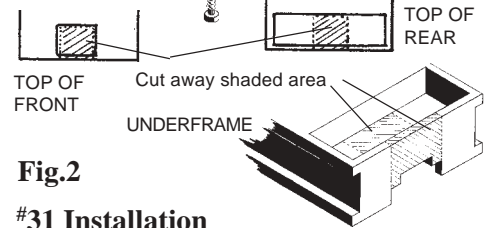

Fig.2
4. Remove the entire coupler box upper deck from the underframe at both ends along with a part of the front and back face plate the same width of the coupler box. Be careful while cutting and filing so you won't remove any more than necessary. See Fig. 2.